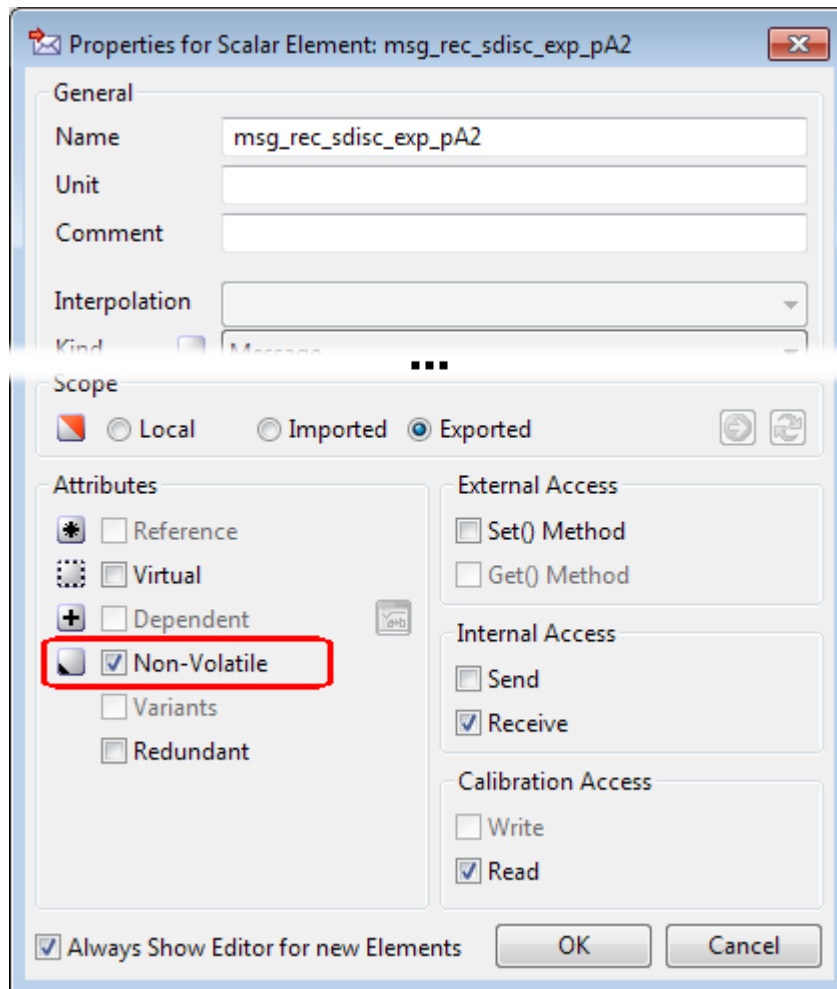

Figure 3.28: Assigning the Non-Volatile attribute to an element
3. In the "Attributes" area, activate the **Non-Volatile** option (see Figure 3.28 on this page).